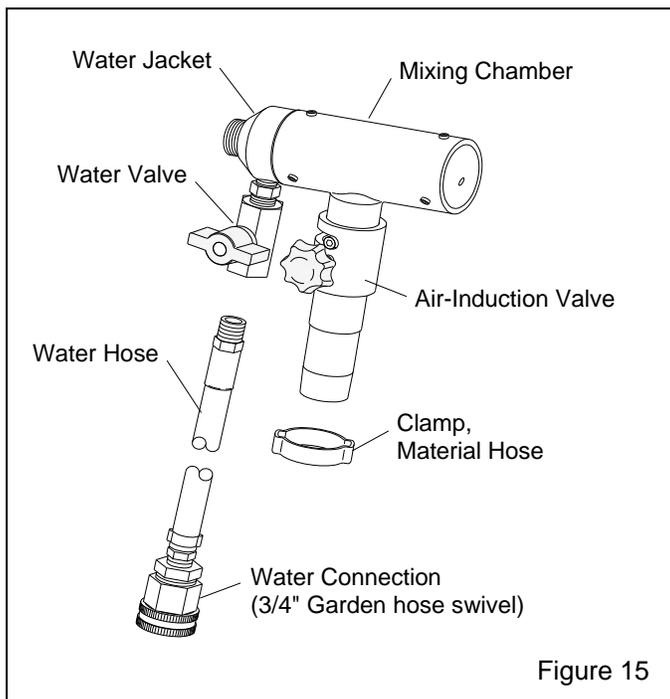

Figure 15
7.1 The following instruction explains the conversion of a dry blast power gun to a wetblast power gun Model H2O. Components of the conversion kit are shown in Figure 15.